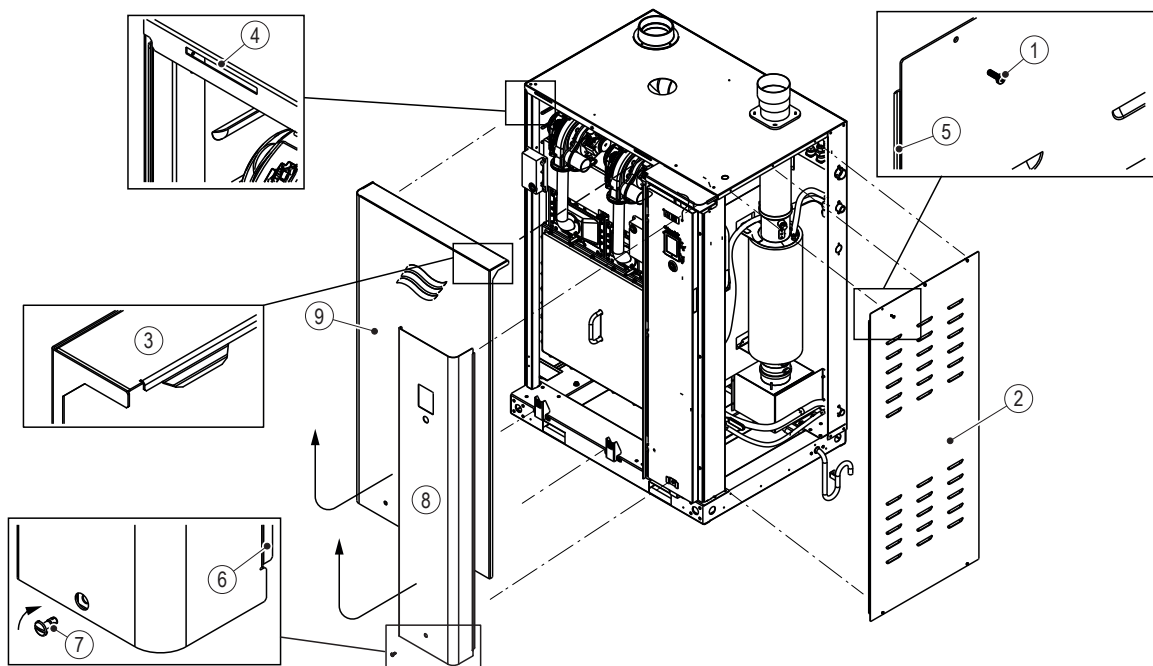

Fig. 11: Access Panels Removal and Installation (GS 64 shown)
2. Position the door panel (control cabinet/plumbing cabinet) so that the two tabs in the top rear of the panel align with the notches in the cabinet. Lower the door panel to seat the tabs in the notches, while ensuring that the tabs in the (left/right) side panel engage with the notches in the cabinet. Refer to the detail in the Fig. 11.